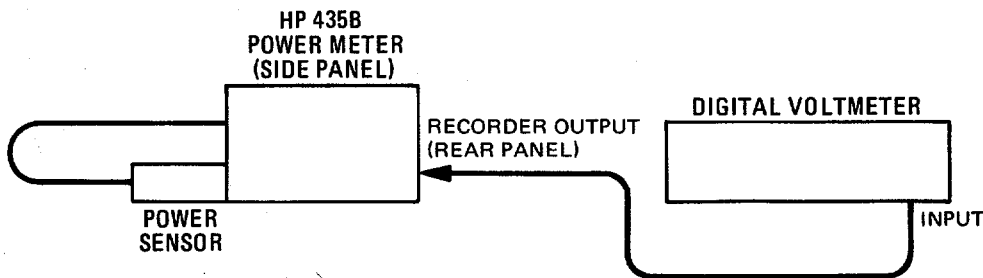

Figure 5-4. Power Meter Adjustment Setup with 50W Power Sensor
4. Remove the right side cover of the Power Meter and connect the equipment as shown in Figure 5-4.